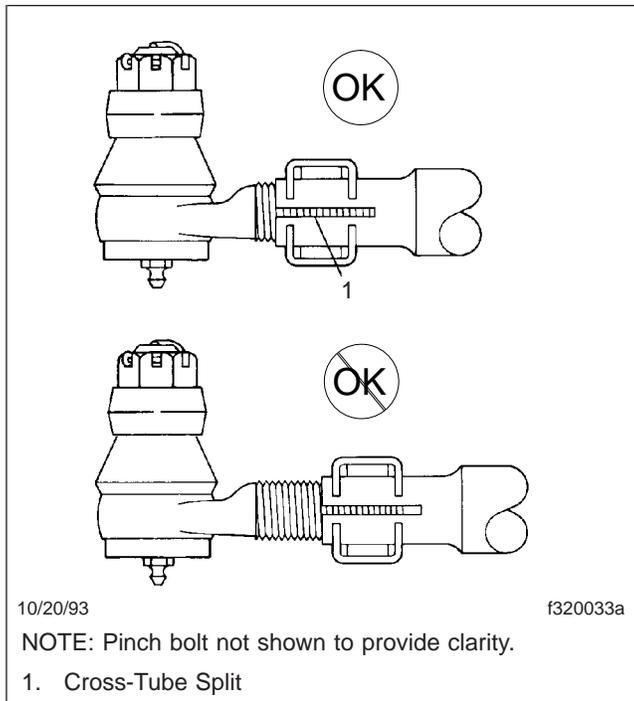

Fig. 2, Tie-Rod End Adjustment
2. The threaded portion of the tie-rod end assembly must be inserted all the way into the cross-tube split, for adequate clamping. See **Fig. 2**. Replace the parts if this cannot be done. For instructions, see the axle manufacturer's service manual.